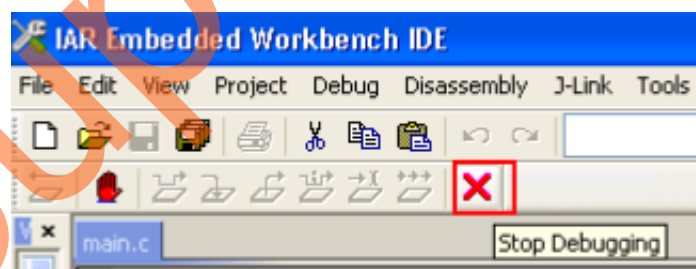

Figure 47 • IAR Workbench - Stop Debugging Option
8. When debug process is finished, terminate execution of the code by choosing **Debug > Stop Debugging** as shown in Figure 47.